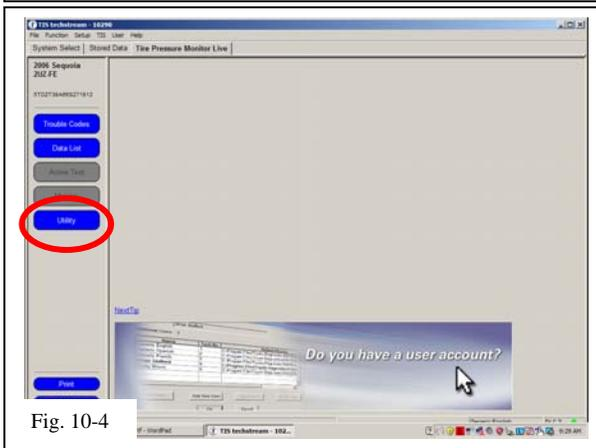

Fig. 10-4
- (g) Select “**UTILITY**” to begin input of new TPMS ID codes (Fig. 10-4).